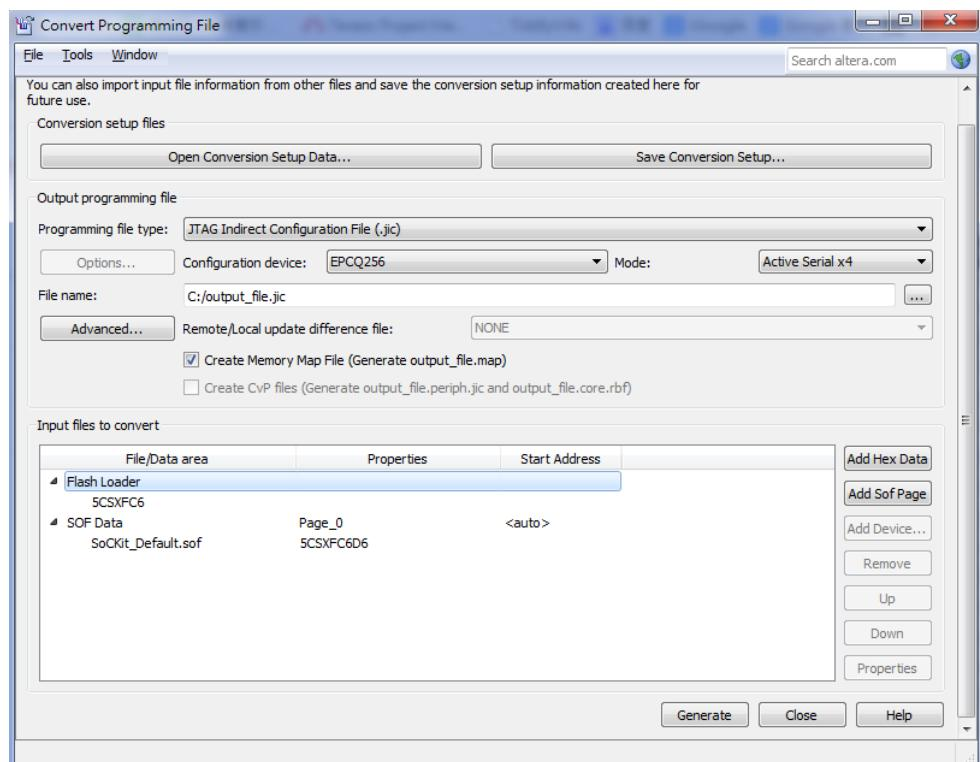

Figure 7-5. Convert Programming Files Page
13. Click OK. The **Convert Programming Files** page displays. See **Figure 7-5**.